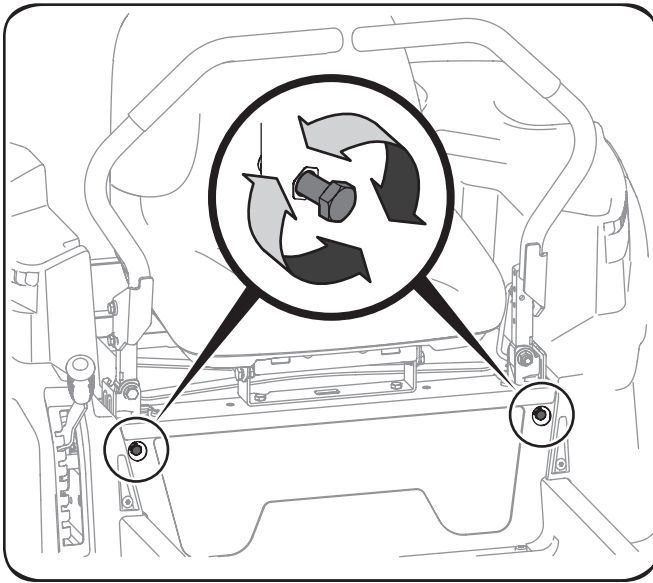

Figure 6-6
2. Locate the drive control lever stop adjustment bolts on the front of the seat frame. See Figure 6-6.